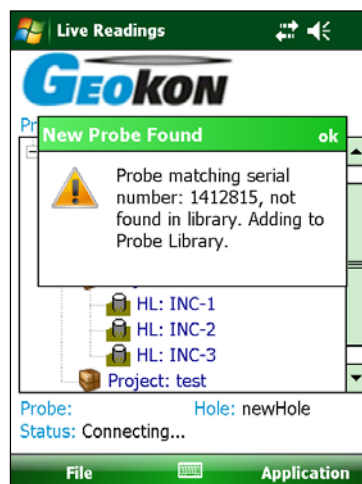

Figure 7 – New Probe Found
- a. If the window shown in Figure 7 is displayed, then the probe has not been previously detected by the GK-604D IRA (digital systems only). In this case, tap "ok" and the probe will be added to the Probe Library and the window shown in Figure 8 will be displayed. This allows an opportunity to give the new newly detected probe a user friendly name and description. See section 4.2, Probe Configuration for more information on probe settings. When satisfied with the settings, tap "Menu->Save Settings" to exit the Probe Settings Window (see Figure 8).